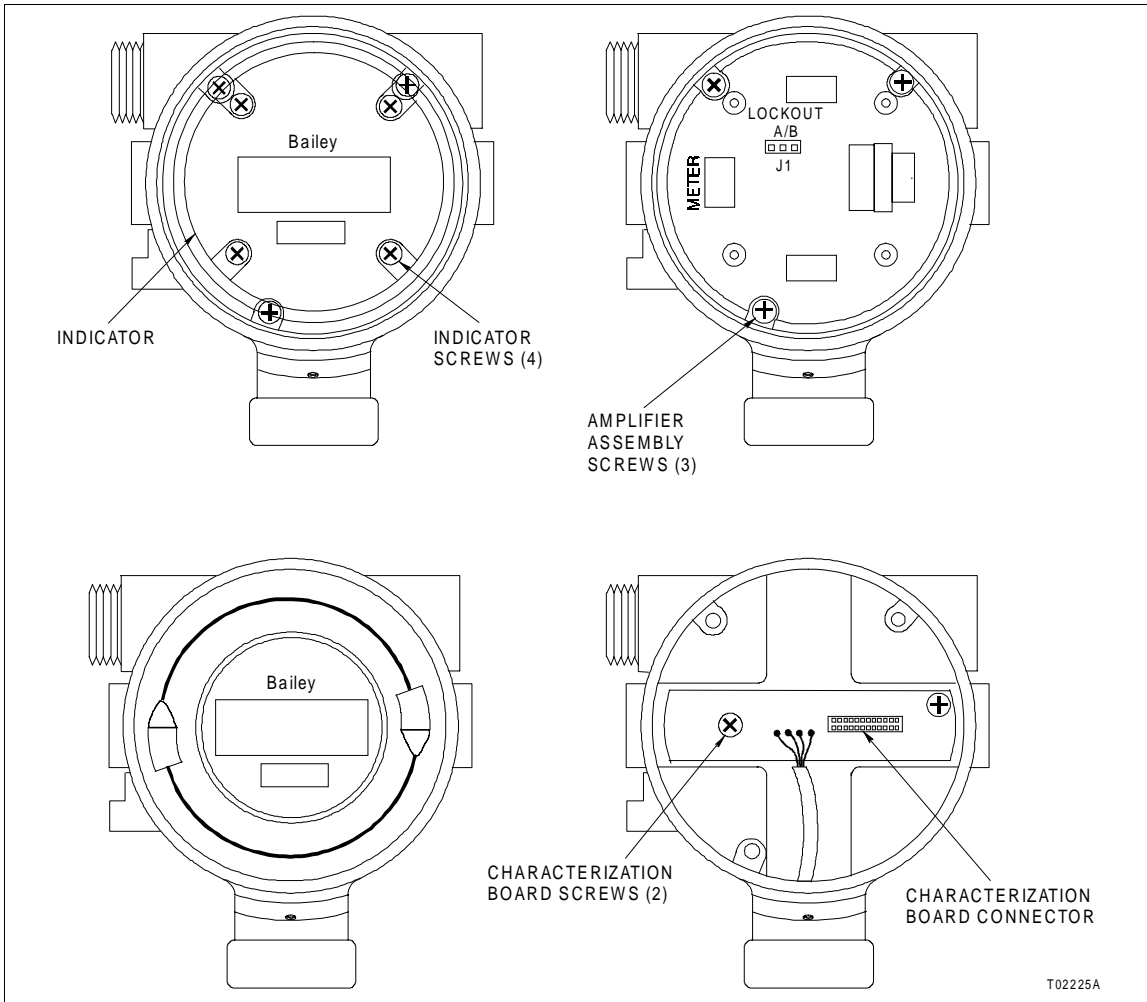

Figure 8-1. Internal Transmitter Components
Use Figures 8-1, 8-2, and 8-3 as visual aids when performing these procedures.
3. Use the Phillips screwdriver to remove the three screws that secure the amplifier assembly to the electronics housing (Fig. 8-1).
4. Gently pull the amplifier assembly out of the electronics housing to unplug it from the characterization board connector (Fig. 8-1).
5. Remove the two screws securing the characterization board to the electronics housing (Fig. 8-1).
11. Mount the characterization board to the electronics housing and install the two screws (Fig. 8-1).